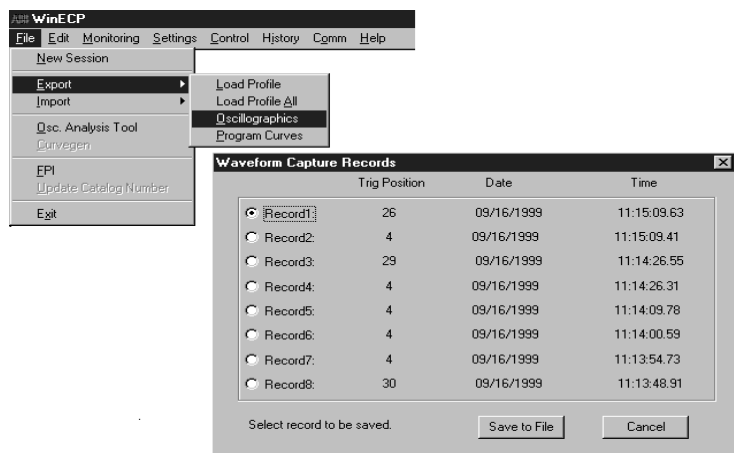

Figure 10-6. Oscillographic Data Exporting
2. Select the record you want to save and click “Save To File”. See Figure 10-6.